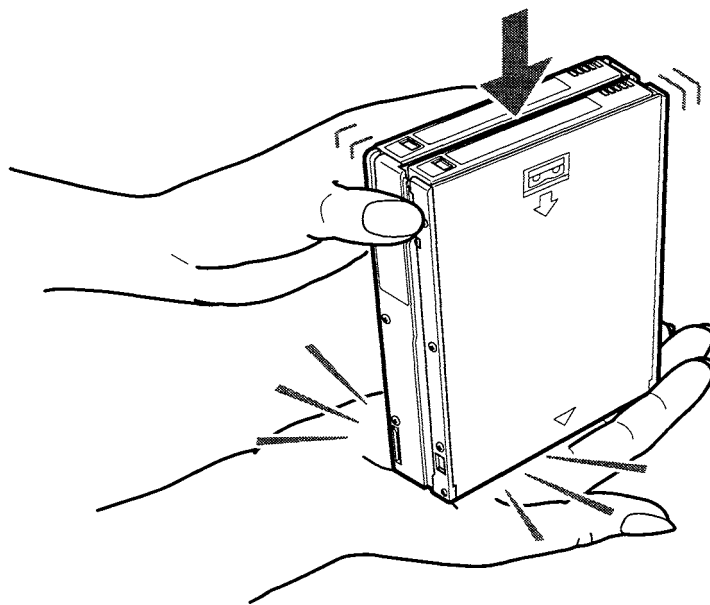

Figure 4-9. Tap the magazine against your palm to drop the fourth tape to the bottom slot
5. Grasping the open end of the magazine in one hand, briskly tap the closed end of the tape drive against your open palm one time. See Figure 4-9. The fourth tape drops into the bottom slot.